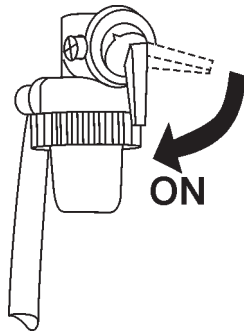

Figure 11. Engine Fuel Valve Lever (ON Position)
1. Place the engine **fuel valve lever** (Figure 11) to the "ON" position."
1. Place the **main circuit breaker** (Figure 11) in the **OFF** position.